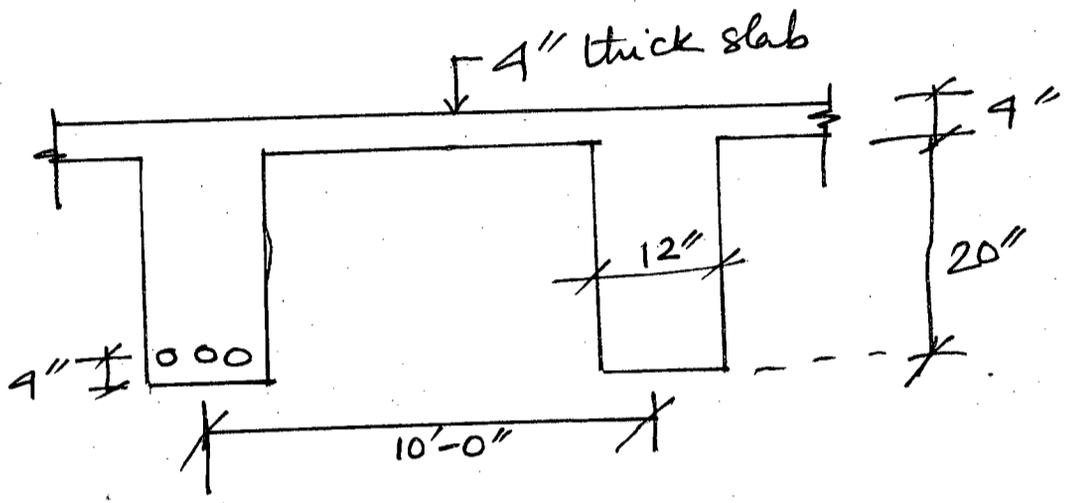

Figure 2
- (b) Mention the boundary conditions which have been used for drawing the flow net of the masonry dam as shown in Fig. 2. Also find the following: (17)
4. (a) What are the code requirements for determination of effective width of a T beam? (5)
- (b) How the location of neutral axis indicates whether the beam should be analyzed considering T-beam or rectangular beam. (5)
- (c) A floor slab 4" thick is supported by reinforced concrete beams, 10 feet centre to centre, which together with slab act as T-beams. The cross-section of each beam below the slab is 12" × 20" as shown in Figure 2. The beams are simply supported and their span is 25 ft. The effective depth will be taken 4 inch less than total depth. The slab supports a service live load of 100 psf and a superimposed dead load (for floor finish and partition wall) of 75 psf. in addition to self weight. Given, $f'_c = 3$ ksi; $f_y = 60$ ksi; find
- (i) The effective flage width. (5)
- (ii) The tensile steel area and select bars for a typical interior beam. (20)